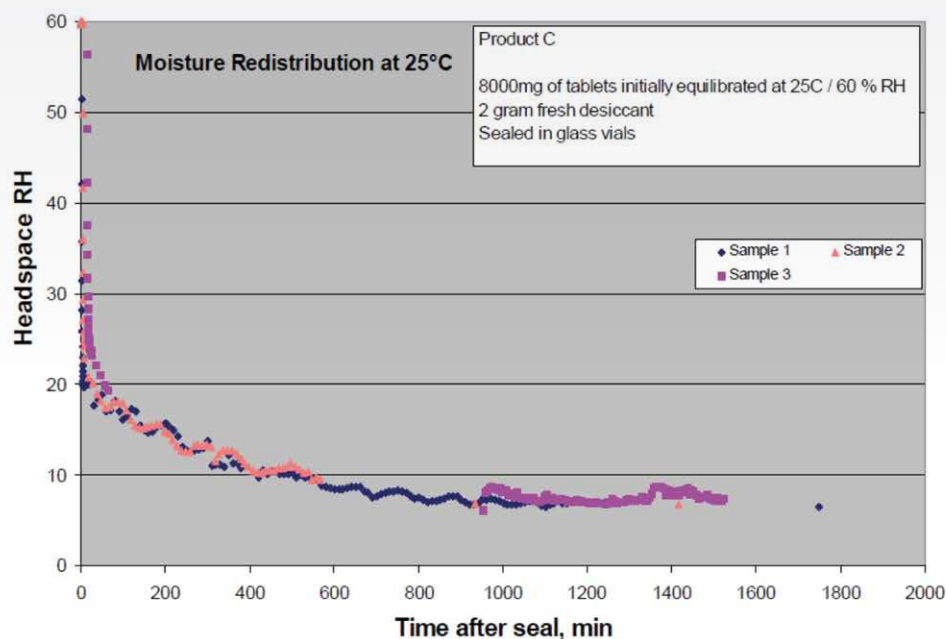

Figure 1: RH (%) versus time as tablets reach equilibrium with desiccant inside package.
When desiccants are added to the primary packaging, water moves from the product formulation to the desiccant. This process continues until the water activity of the desiccant and the water activity of the product are equal. The process can be monitored by measuring the RH of the headspace in the package. Figure 1 shows the headspace RH of samples originally stored at 25°C with an RH of 60% after sealing them with desiccants in a glass vial. The RH decreases from 60% to 8% after approximately 14 hours (1).
The data in Figure 1 was collected using the reiterative test mode of the Lighthouse Instruments FMS-Water Activity Analyzer, which uses a tunable diode laser absorption spectroscopy technique called frequency modulation spectroscopy.